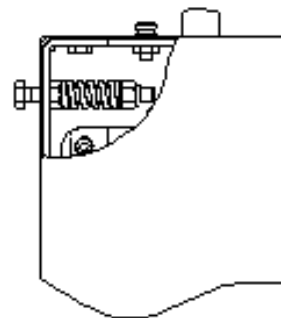

Fig. 8
**4.1.6 Tracking adjusting bolts:** Located on the front side of the console. See Fig. 8